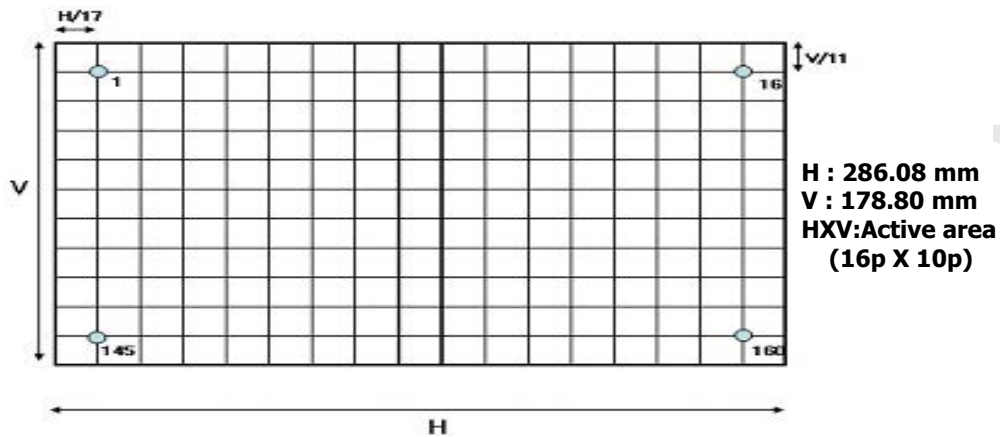

FIG. 3 Response Time
| Response time | $T_{rR} + T_{rD}$ | - | - | 16 | 25 | ms | Fig 3 |
- Response time is the time required for the display to transition from white to black (rise time, T_{R}) and from black to white(Decay Time, T_{D}). For additional information see FIG 3.